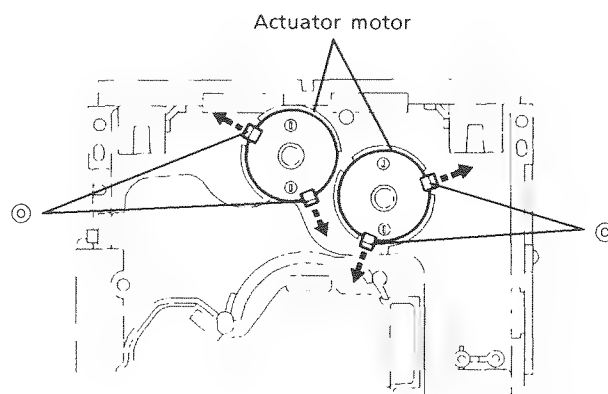

Fig. 46
5. Reverse the chassis ass'y and widen 4 poles (O) which secure both actuator motors to its arrows to remove the actuator motors. (See Fig. 46.)